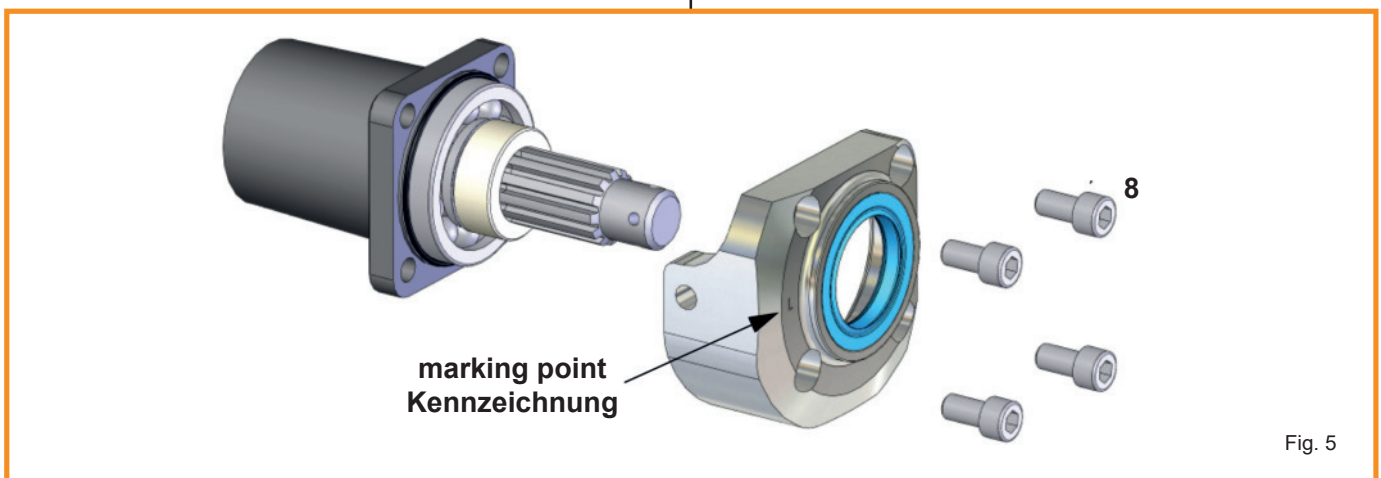

Fig. 5
- The caliper needs to be installed in the 8-o'clock position on the left and the 4-o'clock position on the right. So the bearing cap needs to be installed appropriate as shown in picture Fig.5.
- Please note that the brackets are marked L and R. Also shown in picture Fig.5.